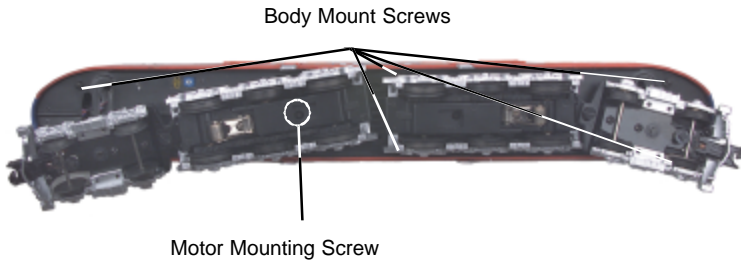

Figure 6: Body Removal Screw Locations
2. Once the cab is removed, remove the trucks by unscrewing the black Phillips motor mount screw located on the underside of the drive trucks (see Fig. 6).
First, remove the truck sides from the truck block by unscrewing the mounting screws as noted in Figure 6.